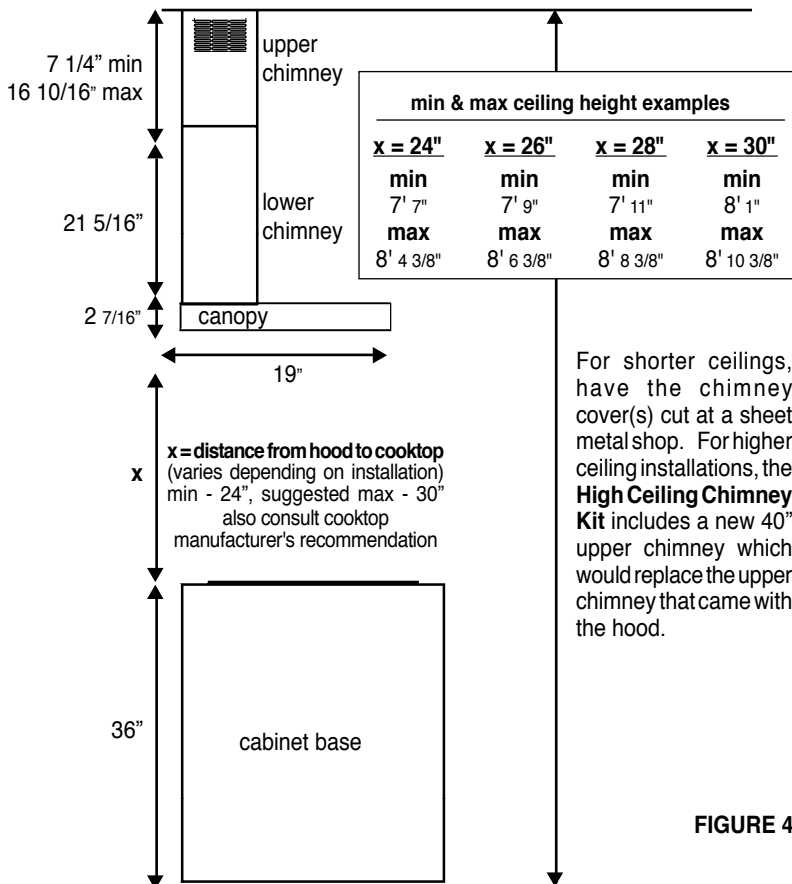

FIGURE 4
The Gemma chimneys are adjustable and designed to meet varying ceiling heights as indicated in (FIGURE 4). The chimneys can be adjusted for ceilings between 7' 7" and 8' 10 3/8" depending on the distance between the bottom of the hood and the cooktop (distance **x** in FIGURE 4).
3. Based on your ceiling height and/or personal preference, determine the distance you would like between the bottom of the hood and the cooktop (SEE FIGURE 4 AND 5). The dimensions illustrate mounting the canopy 24" above the cooking surface.